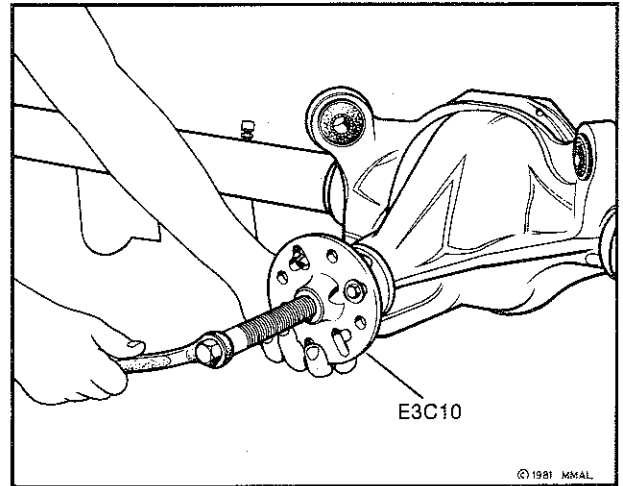

Fig. 14—Removing pinion flange
(5) Remove pinion flange with tool E3C10, refer Fig. 14.